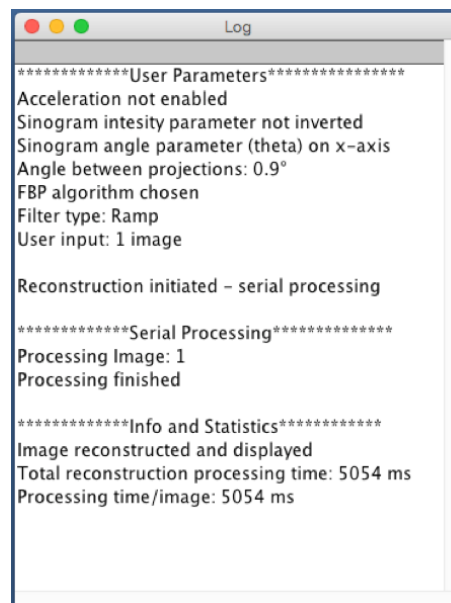

Figure 16: 2D Reconstruction Plugin logs - give a complete overview of the processing steps taking place.
Once the plugin is in operation, the user is kept informed of the progress taking place via an ImageJ log as can be seen in figure 16.
The processing chain, as can be seen from figure 16, is displayed via an ImageJ log whilst the plugin is in operation:
2. If the *Acceleration* feature is disabled the input image/s are processed in series (figure 16).